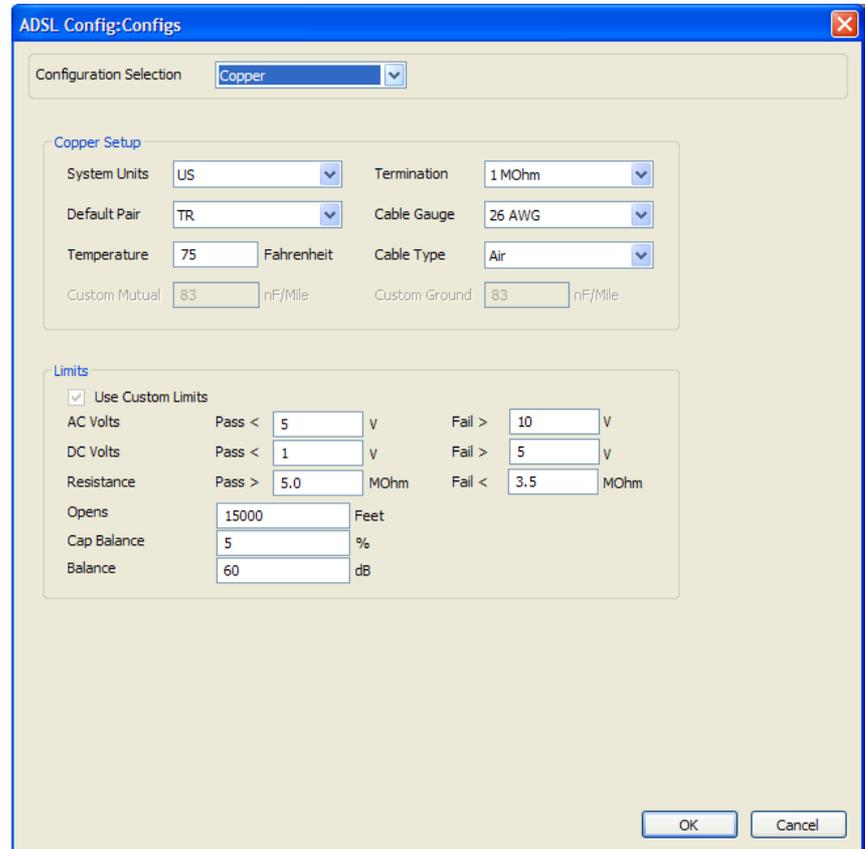

Figure 11 ADSL Copper configuration setup
- 5 To change Copper configurations, select **Copper** from the Configuration Selection box, as shown in Figure 11, and then specify the settings.